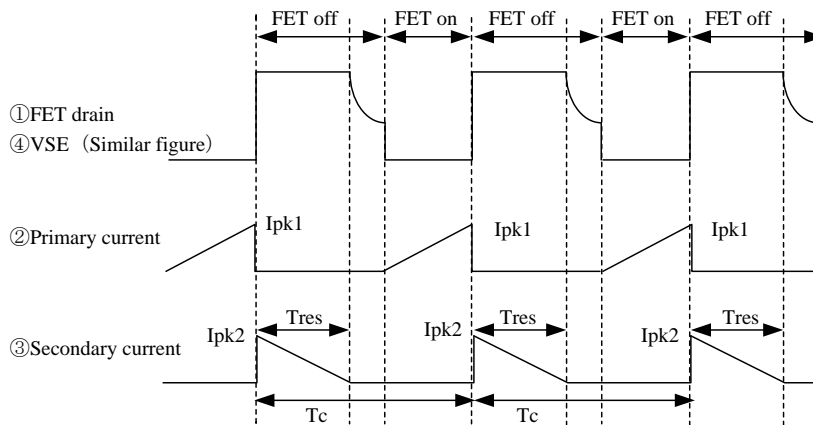

Figure 1.2 Waveform of each point of Figure 1.1 diagram
By monitoring VSE and ISE signals and controlling them, LED current (output current) can be controlled to be a constant level. Figure 1.2 shows FET Drain voltage, primary current and secondary current waveform during FET on and off. VSE signal is resistance-divided voltage of auxiliary winding output. Drain voltage waveform of FET and VSE waveform are same polarity and similar. As LED current (output current) is the average of secondary current, it is shown by equation (1).